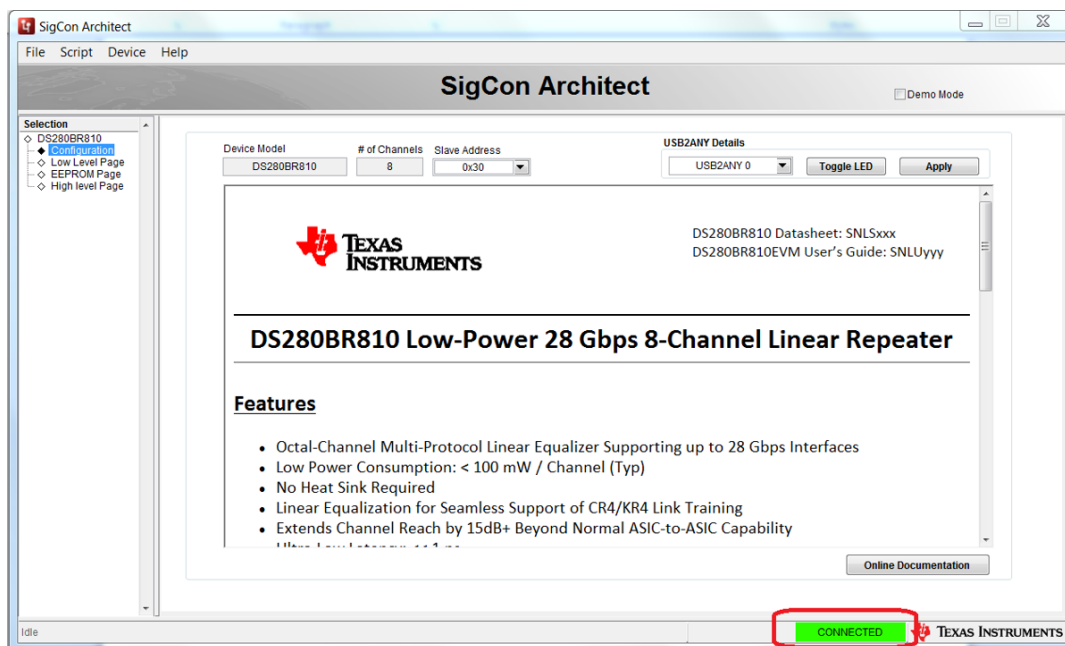

Figure 6. SigCon GUI—*CONNECTED* Indication
- (c) To show the updated preferences, the tool restarts automatically. The green *CONNECTED* indicator on the bottom right of the application shows whether a successful connection has been made or not (see Figure 6). This indication means that the tool is communicating with the U1 correctly, which has the default slave address of 0x30. The user can change the slave address to 0x36 to control the U2 device.